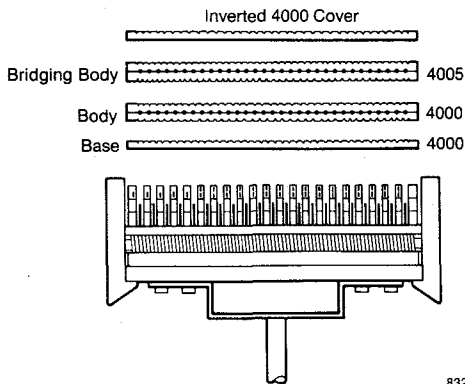

Fig. 109—Cover of 4000 module upside down.
**Note:** When crimping a bridge module onto working pairs the crimp bar must be insulated. The cover removed from the 4000 module may be placed upside down on the top of the bridge module as an insulator. See Figure 109.